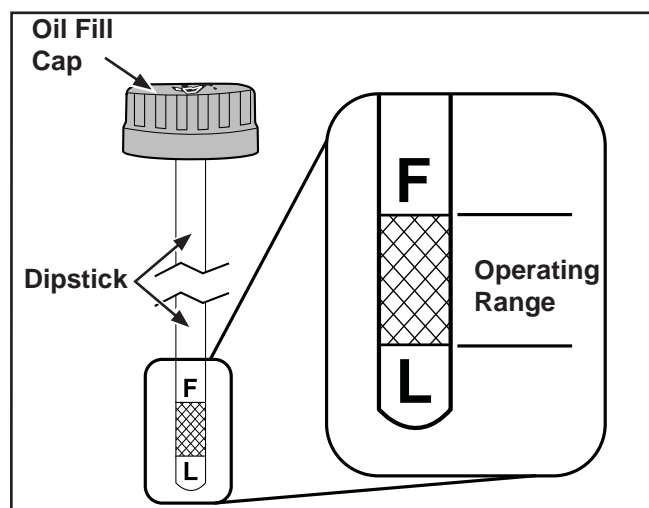

Figure 6-4. Oil Level Marks on Dipstick.
4. Remove the oil fill cap/dipstick and check oil level is correct. The correct oil level is between the F and L marks on the dipstick. See Figure 6-4.
2. Remove one of the oil drain plugs and the oil fill cap/dipstick. Allow ample time for complete drainage. See Figures 6-4 and 6-5.